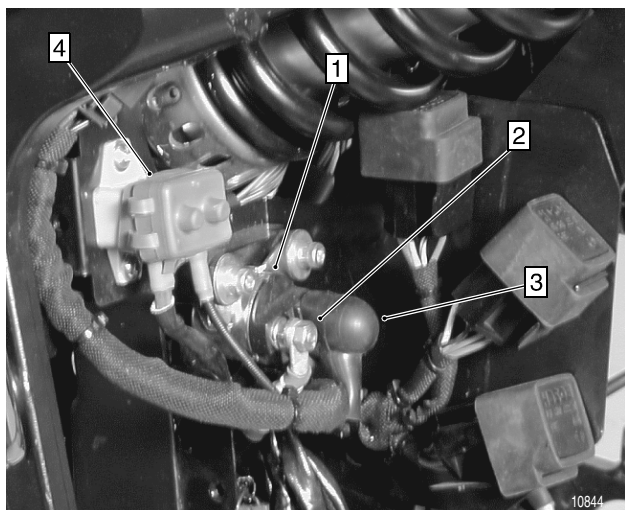

Figure 2
12. Note the location, remove, and discard the existing power relay to starter wire. Install the relay to starter wire provided in exactly the same location as the wire you just removed. Attach the wire to the starter terminal post and to the new power relay (see Figure 2).
14. Install the relay to circuit breaker wire provided (see Figure 2).